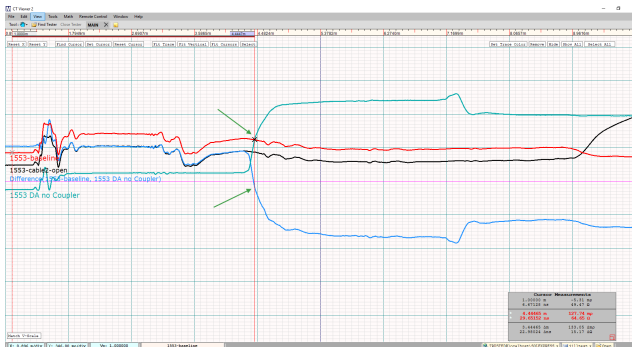

Figure 5.34 Taking the difference of the primary (red) and secondary (teal) selected traces. The difference is shown in blue.
3. A new trace will be created that is the difference of the selected traces (Figure 5.34).